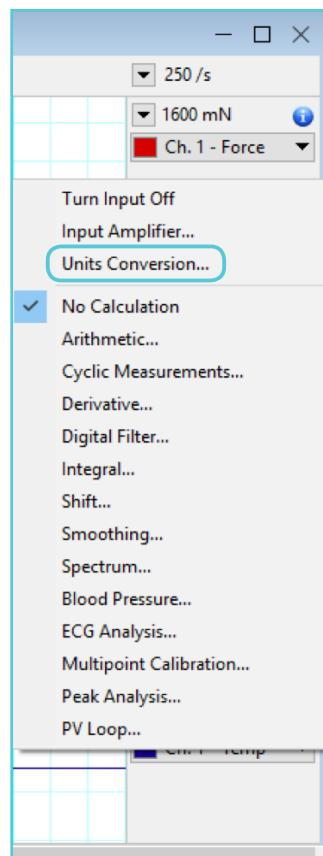

Figure 72.
Step 8: Next, select 'Units Conversion' (figure 72).